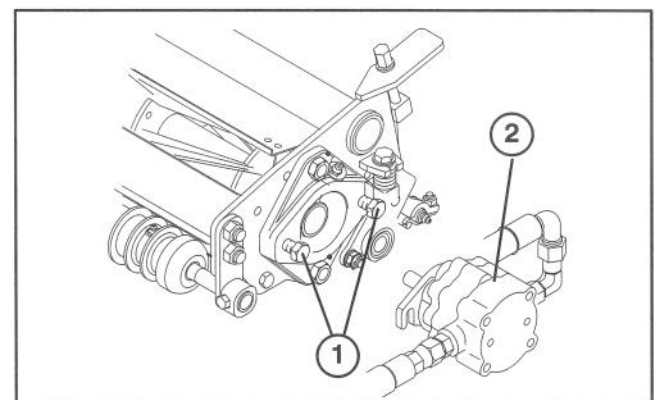

Figure 9
4. Assemble the mounting capscrews for the reel drive motor to each cutting unit. Leave approximately 1/2 in. of threads exposed on each mounting capscrew (Fig. 9).
7. Coat the spline shaft of the motor with clean grease and install the motor by rotating the motor clockwise so the motor flanges clear the studs. Rotate the motor counter-clockwise until the flanges are encircling the studs and tighten the mounting capscrews (Fig. 9).